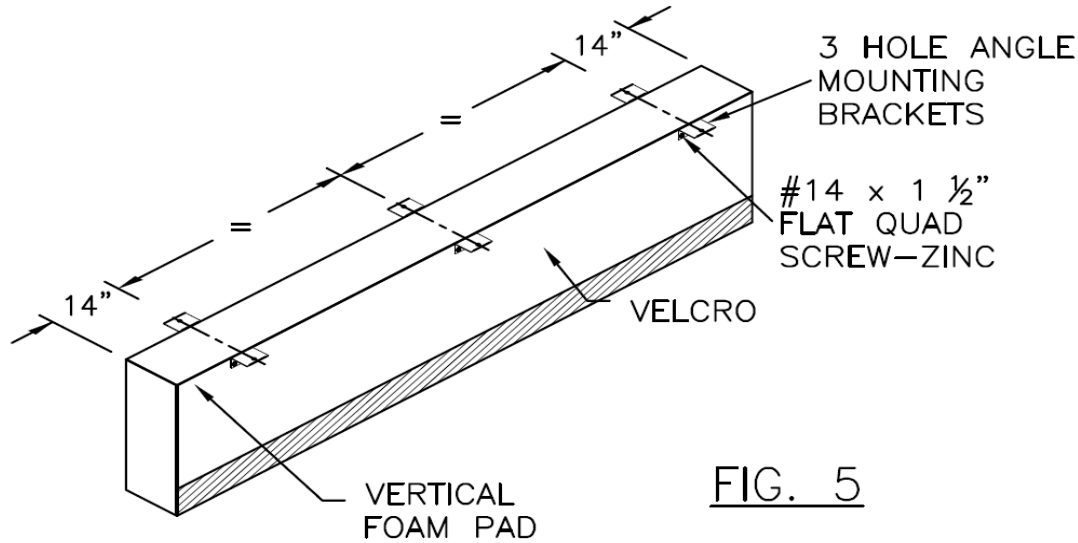

FIG. 5
- i. Fasten galvanized steel ANGLE brackets, using No. 14 wood screws, to outside perimeter of each vertical pad as in Fig.5